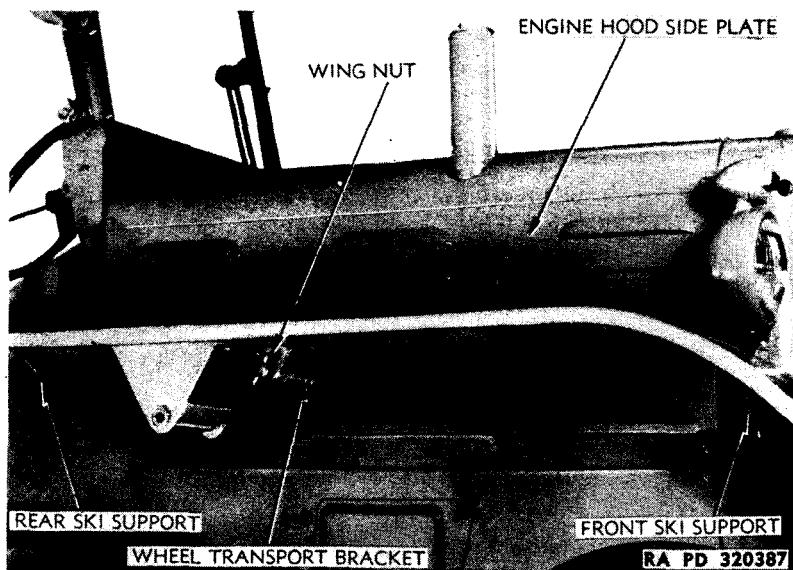
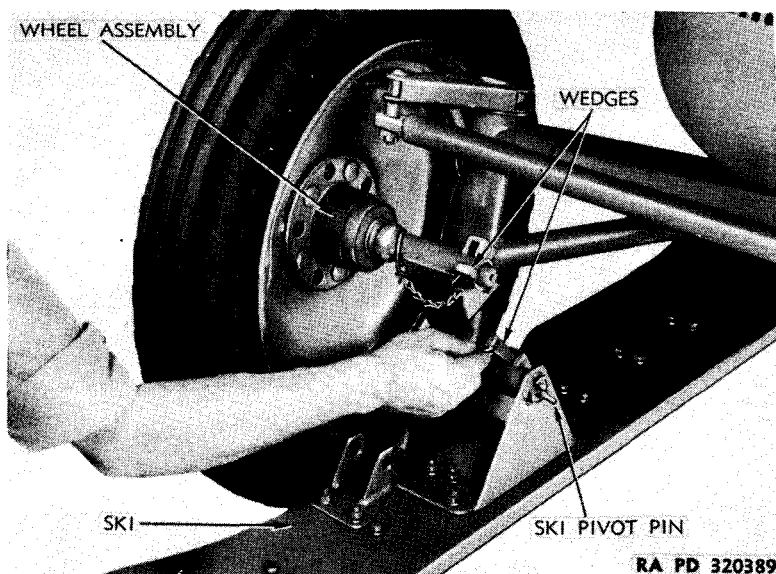

Figure 87—Right Ski in Transport Position
Figure 89—Installing Ski Pivot Pin Wedge
are to be installed, remove wheels from transport position. Have another man lift on front of ski on side where wheel is to be installed, and slip wheel spindle into place, being sure to line up wedge slot in spindle with slot of axle so that wedge can be installed. Let weight of vehicle onto wheel. Tap wedge tight. Tap wedge from ski pivot pin, and remove pivot pin (fig. 89) and ski. Repeat for other side.
b. **Skis.** The skis in transport are carried on side of tractor (fig. 87) (in same manner as wheels) by inserting pivot pin through ski bracket from side toward tractor when ski is held in an inverted position with long end of ski toward front of tractor. Slide onto carrier stud so that rear end of ski is in clip bracket on side of body, and front end of ski rests on radiator bracket. Secure with wing nut. Tractor does not have to be jacked up in front to put on skis when wheels are in operating position. Install ski. Install pivot pin. Install wedge (fig. 89). Raise front end of ski, and remove wheel. Wheels and skis may be used simultaneously if occasion demands.